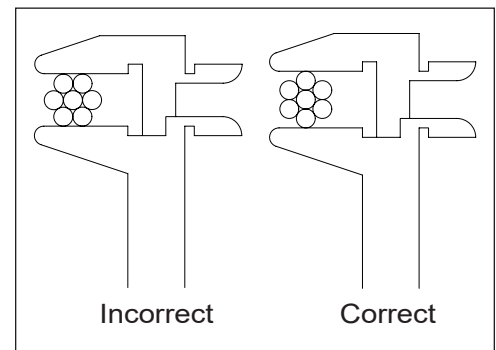

Figure 1 — Wire Rope Measurement
7. Use a digital caliper or dial caliper to measure the diameter of the wire rope across the crowns of opposite strands (refer to Figure 1). Rotate the caliper around the rope when taking the measurement to obtain the maximum reading.